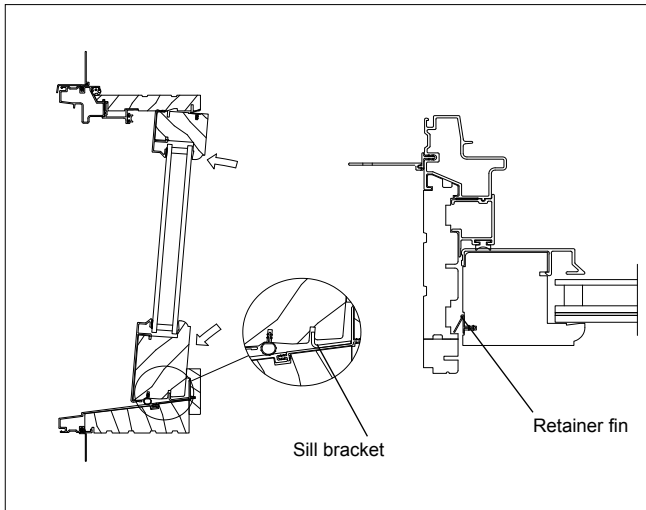

Figure 4
5. Place the bottom of the sash into the frame and tip up into place until sash is seated against the exterior stop and sash retainer fin has snapped into place. See figure 4.